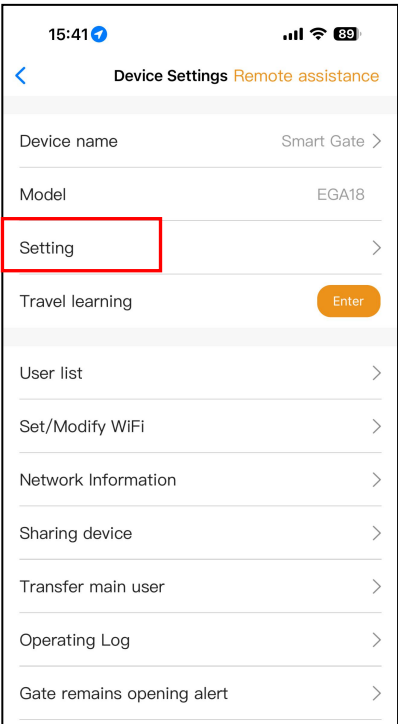

Fig 11
Step 1. Select the device, press the “⚙️” on the top right corner. Click the“ Setting”. (Fig 11)